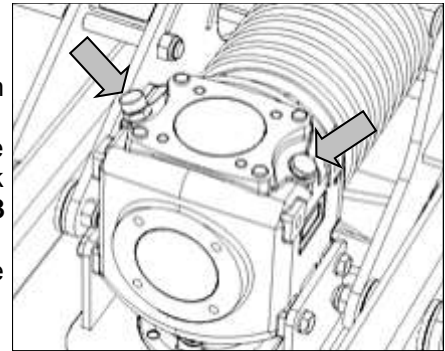

Fig. 57
6. Breather and blank plugs are fitted to the top of each gearbox (Fig 57). Remove one.